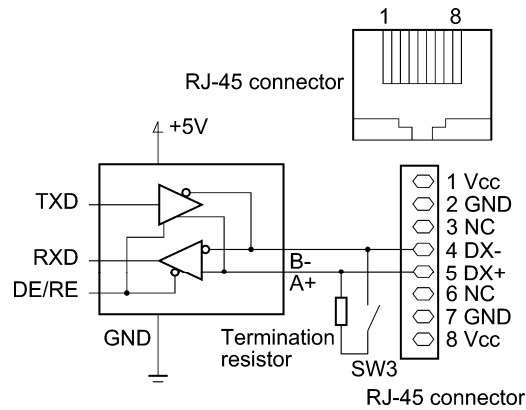

Figure 1.3 Standard RS-485 Port and RJ-45 Connector Pin Assignment
- The RJ-45 connector on the inverter has pins to which the keypad power is assigned for remote keypad operation. Do not use these pins when connecting any other equipment to the RJ-45 connector. (See Figure 1.3 on the next page.)
For ease of connection to a standard RS-232C–RS-485 converter, the inverter's RS-485 port is designed to be compliant with the standard 4 pairs signal line pin assignment for the RJ-45 connector, where a pair of signal lines DX- and DX+ are assigned to #4 and #5 pins as shown in Figure 1.3.